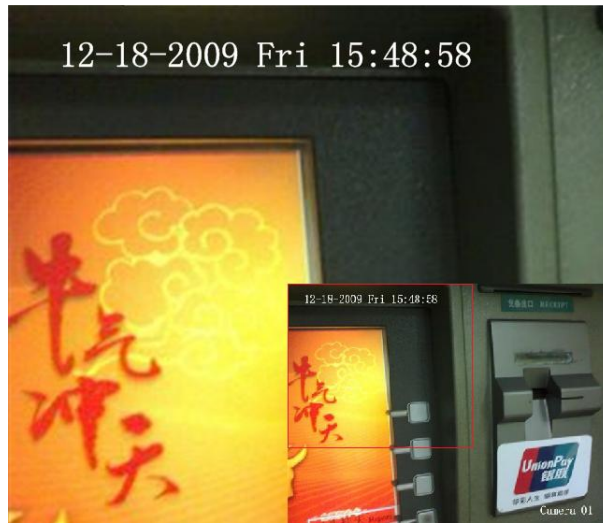

Figure 7. Digital Zoom Area Selection
2. Left-Click and drag red box for desired magnification area, as shown in Figure 7. The selected area will be zoomed to full screen.